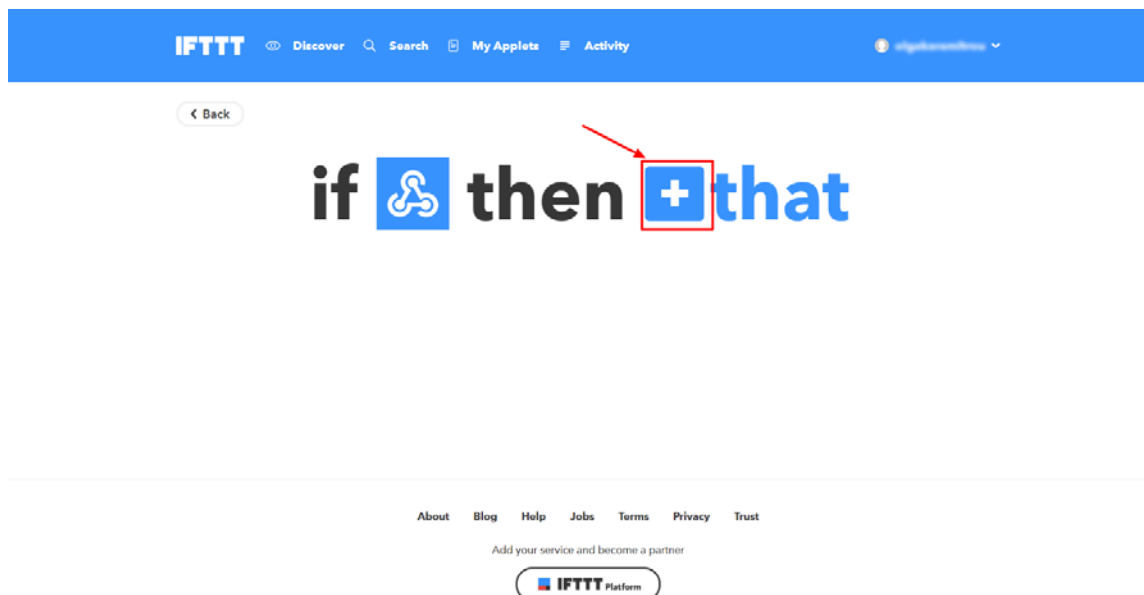

Figure 79: Make an IFTTT Applet, Create That
- Follow the instruction on Figure 79.